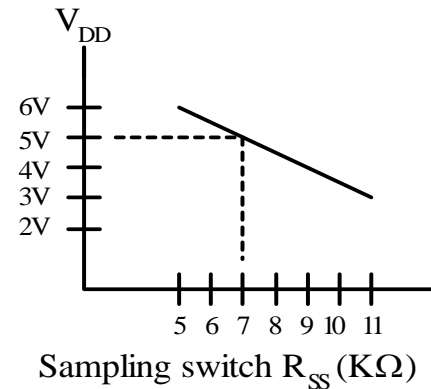

Figure 12.11 Analog input circuit model
- The sample-and-hold circuit is shown in Figure 12.11.